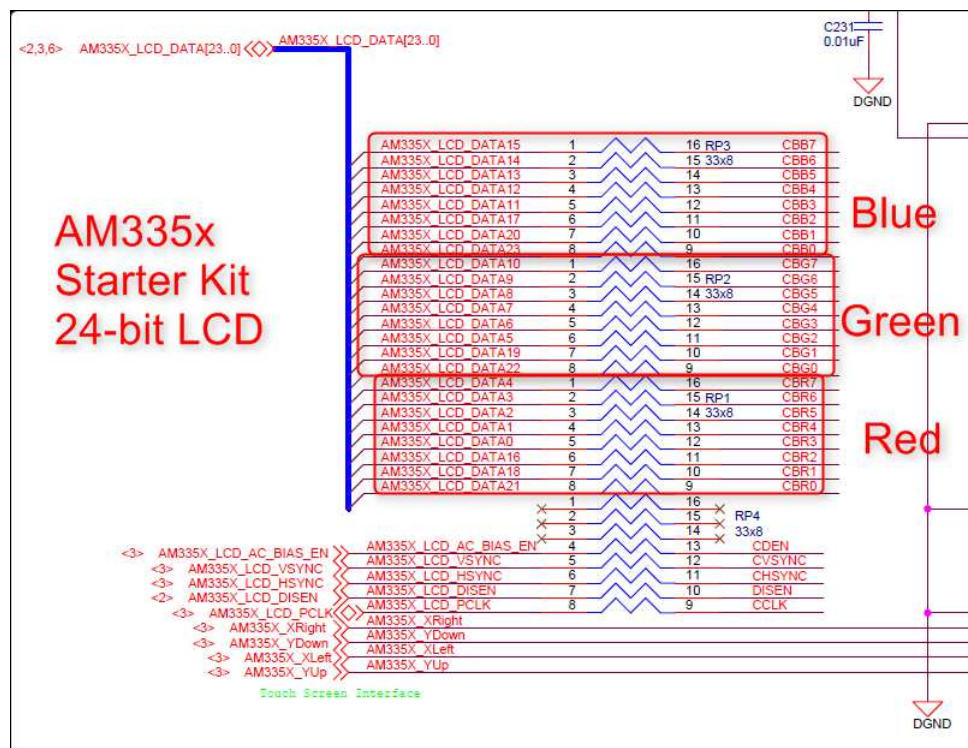

Figure 1. AM335x Starter Kit, 24-Bit LCD
- A good example of a 24-bit hookup comes from the AM335x Starter Kit shown in Figure 1.